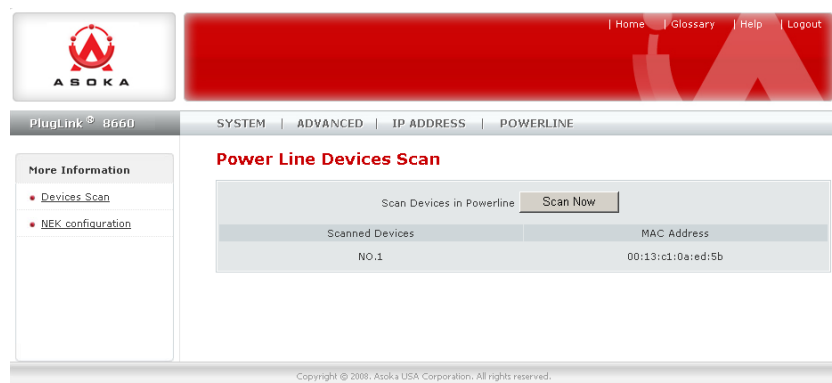

Figure 2-19: Powerline Device Scan Page
2. Click **Powerline** in the Web Management utility menu bar. The PowerLine Device Scan page appears (see Figure 2-19).